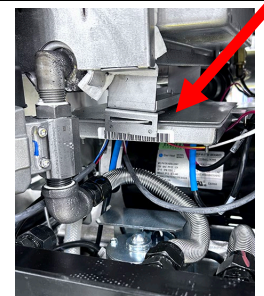

Figure 2
5. Locate the VIB board underneath the frypot associated with the OIB sensor installation (see Figure 2).